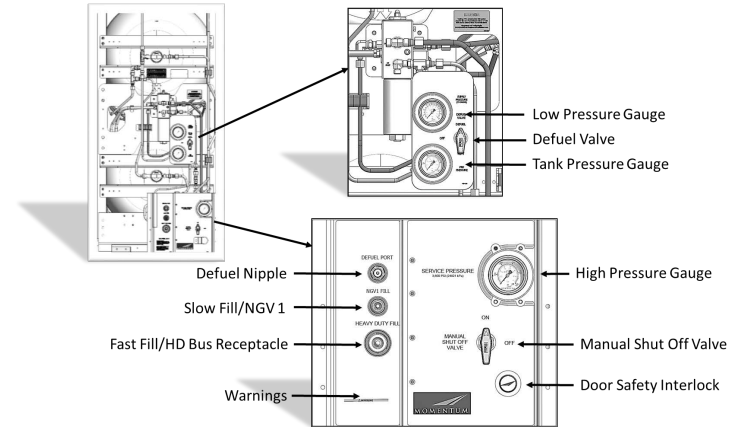

FIGURE 10 – FUEL MANAGEMENT MODULE
1. Open the fuel access door. Remove the cap from the appropriate fueling receptacle. (Figure 10)